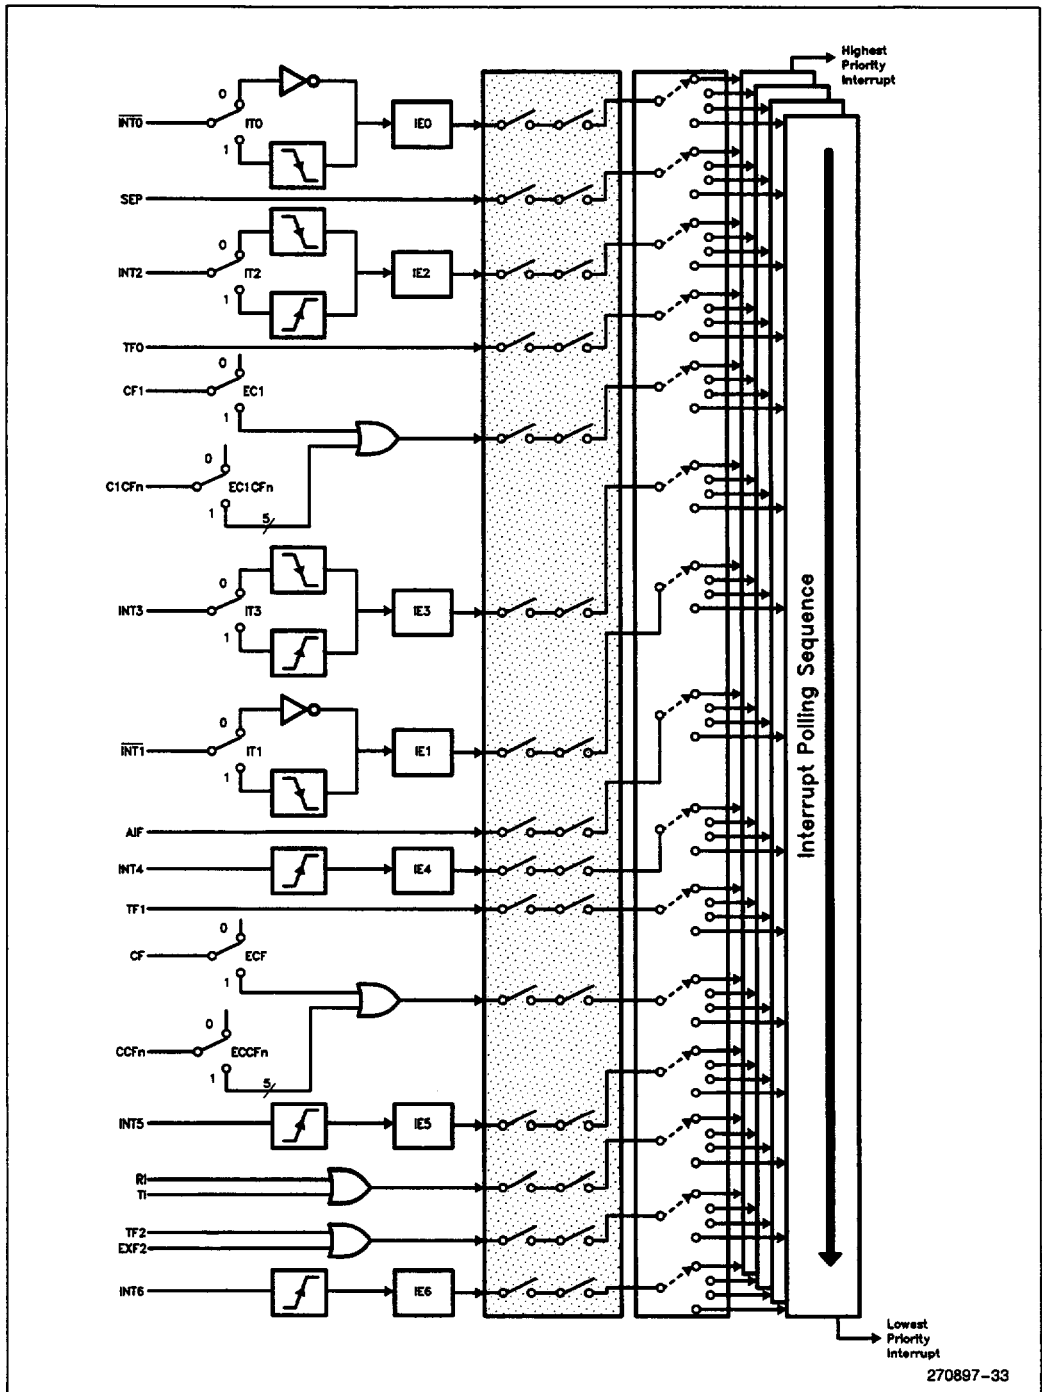

Figure 33. Interrupt Control System
Each of these interrupt sources can be individually enabled or disabled by setting or clearing a bit in the Interrupt Enable (IE and IEA) registers as shown in Table 22. Note that IE also contains a global disable bit, EA. If EA is set (1), the interrupts are individually enabled or disabled by their corresponding bits in IE and IEA. If EA is clear (0), all interrupts are disabled. Figure 33 shows the interrupt control system.